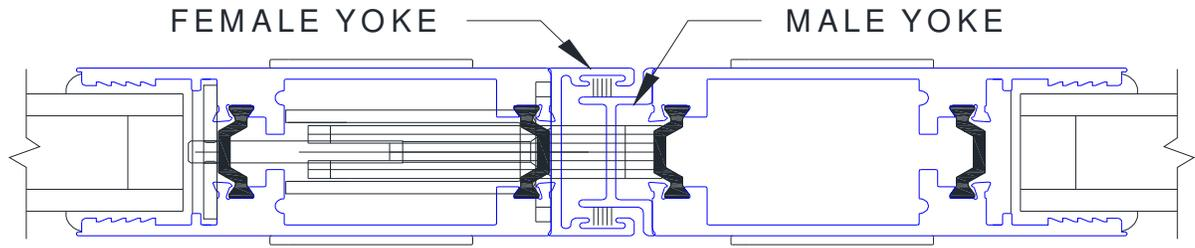

**Figure 6:**
3. Finish assembly by inserting (8) #8 x 2" pan head screws into the fixed stile screw grooves in the top and bottom rails (Figure 6). Add wax to the ends of all fasteners to reduce the drive torque required for installation.